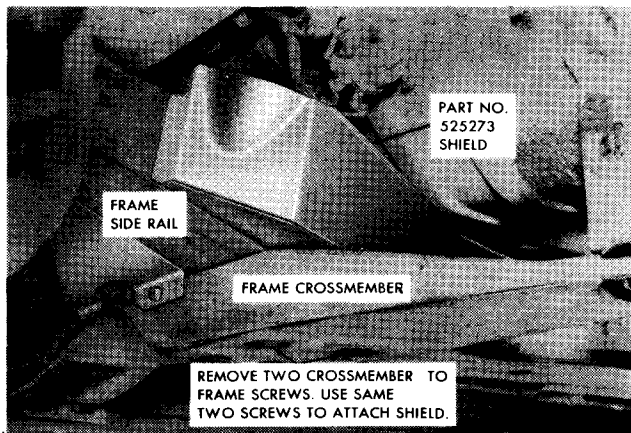

FIG. 1
3. Use a socket wrench connected to the driver with a universal and remove the two frame to crossmember screws on the outside of the frame side rail. Place the clutch pedal splash shield, Part No. 525273, in position (see Fig. 1), align the front hole of each pair in the shield with the two outer frame side rail screw holes, and fasten the shield to the frame by reinstalling the two screws.
shield, Part No. 525273, in position (see Fig. 1), align the rear hole of each pair in the shield with the two outer frame side rail screw holes, and fasten shield to frame by reinstalling the two screws.